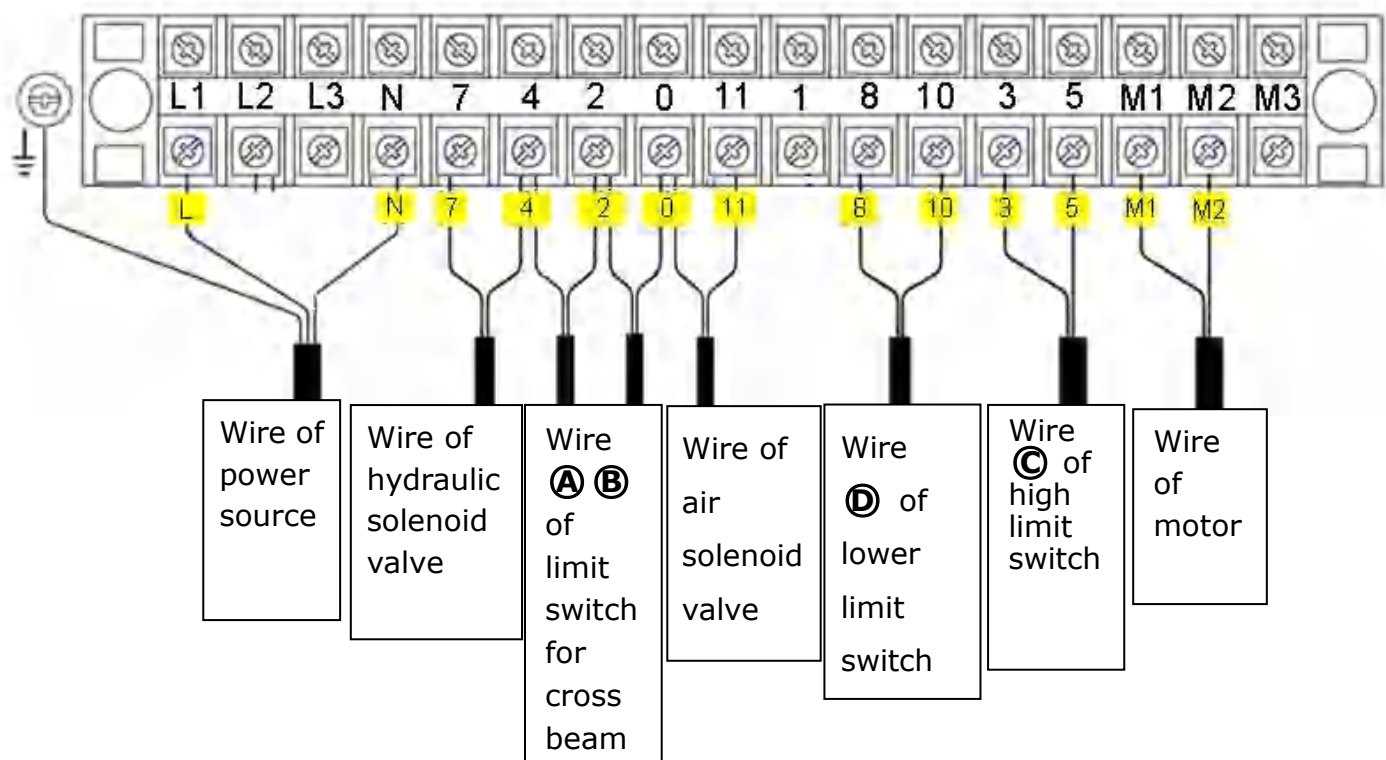

Fig. 45
6.1 Wire Connection diagram in the control box (See Fig. 45).